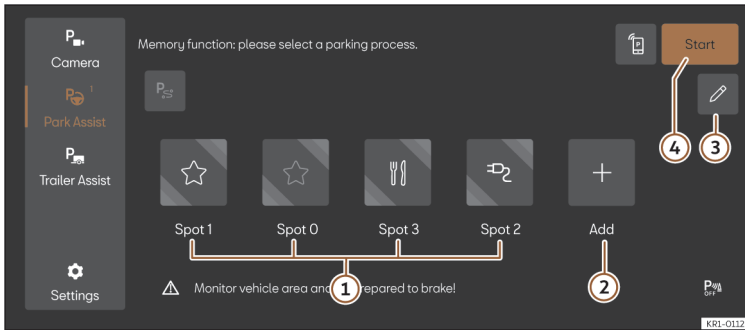

Fig. 142 Schematic representation: Parking system menu with memory function.
4. Select the function button, assign the symbol you want (>>> **Fig. 142** ) and confirm it.
2. If necessary, click on the parking space available icon in the Parking System menu >>> **Fig. 142 ①**. The function button will be displayed in copper.
3. Press the **Start** button >>> **Fig. 142 ④**.